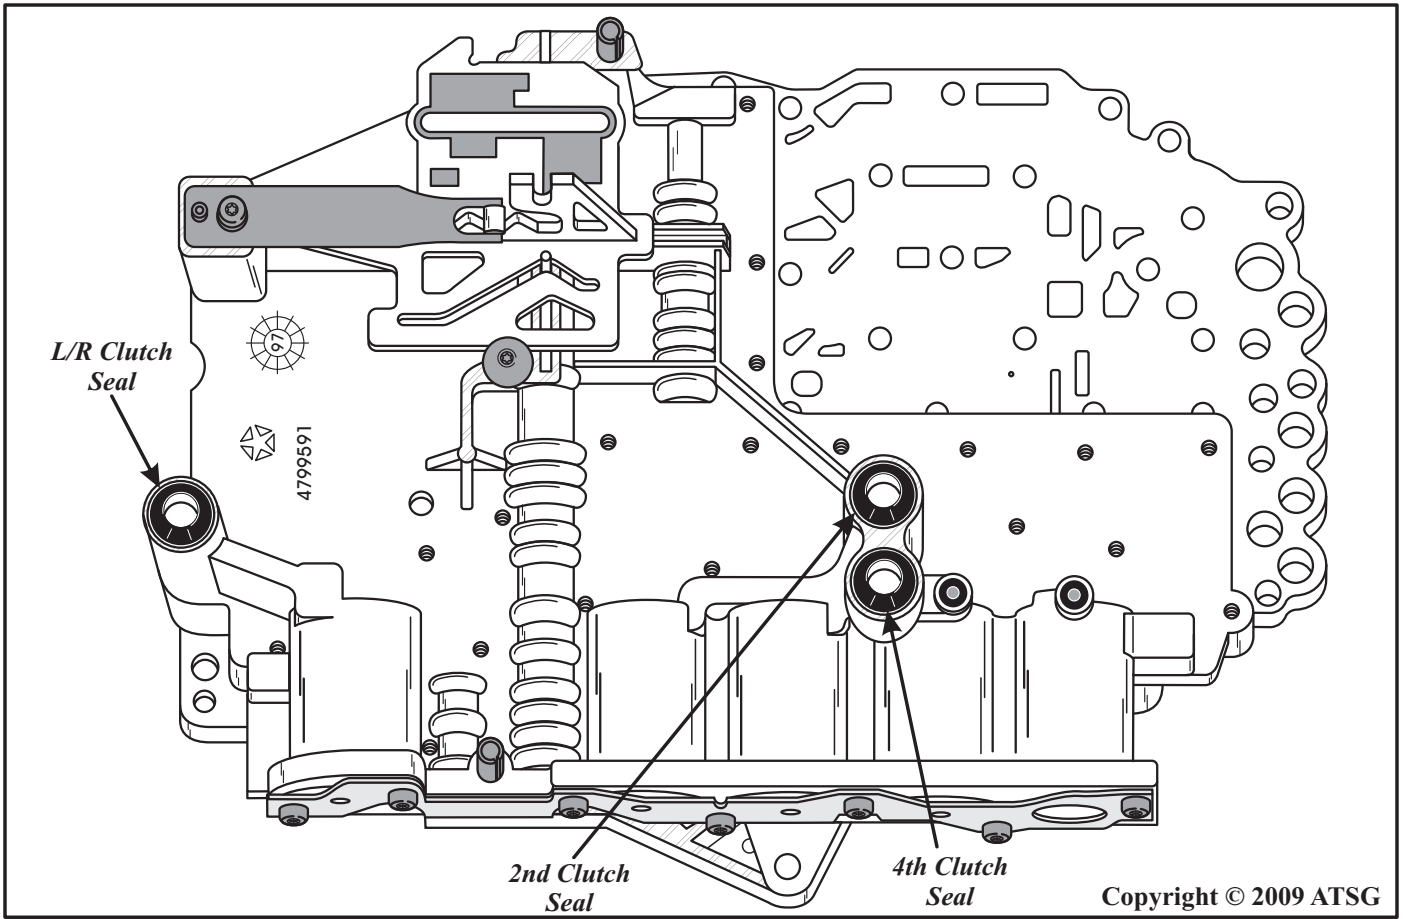

Figure 104
19. Install the low/reverse seal into the valve body with the "house-top" facing up, as shown in Figure 104.
20. Install a new 2nd clutch seal and 4th clutch seal into the valve body with the "house-top facing up, as shown in Figure 104.